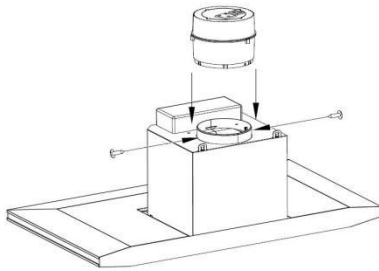
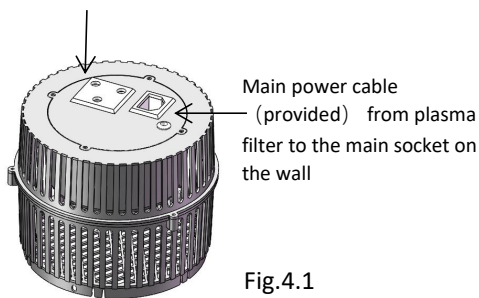
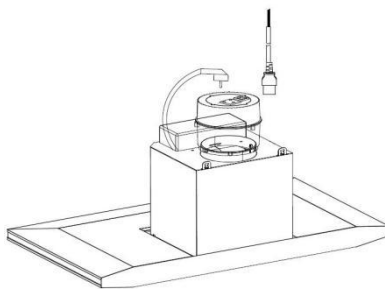
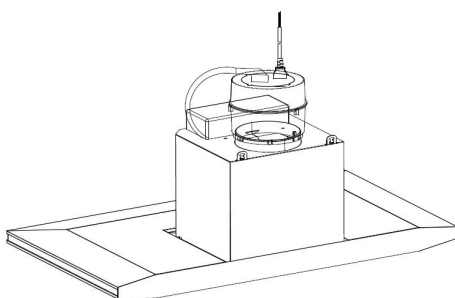

Fig.4
Fig.4.1
Fig.4.2
Fig.4.3
Step 3 (Fig.4, Fig 4.1, Fig.4.2, Fig.4.3)
- Mount the plasma filter carefully and level on the motor housing. Use the screws provided (ST3.9*12mm screws) to clamp the filter firmly. (Fig.4)
- Check the corresponding power sockets before plugging in the power cable. (Fig.4.1)
- Connect the existing power cable from the extractor hood to the plasma filter universal socket (Fig.4.2)
- Connect the main power cable (provided) from the plasma filter to the main power socket on the wall. (Fig.4.3)